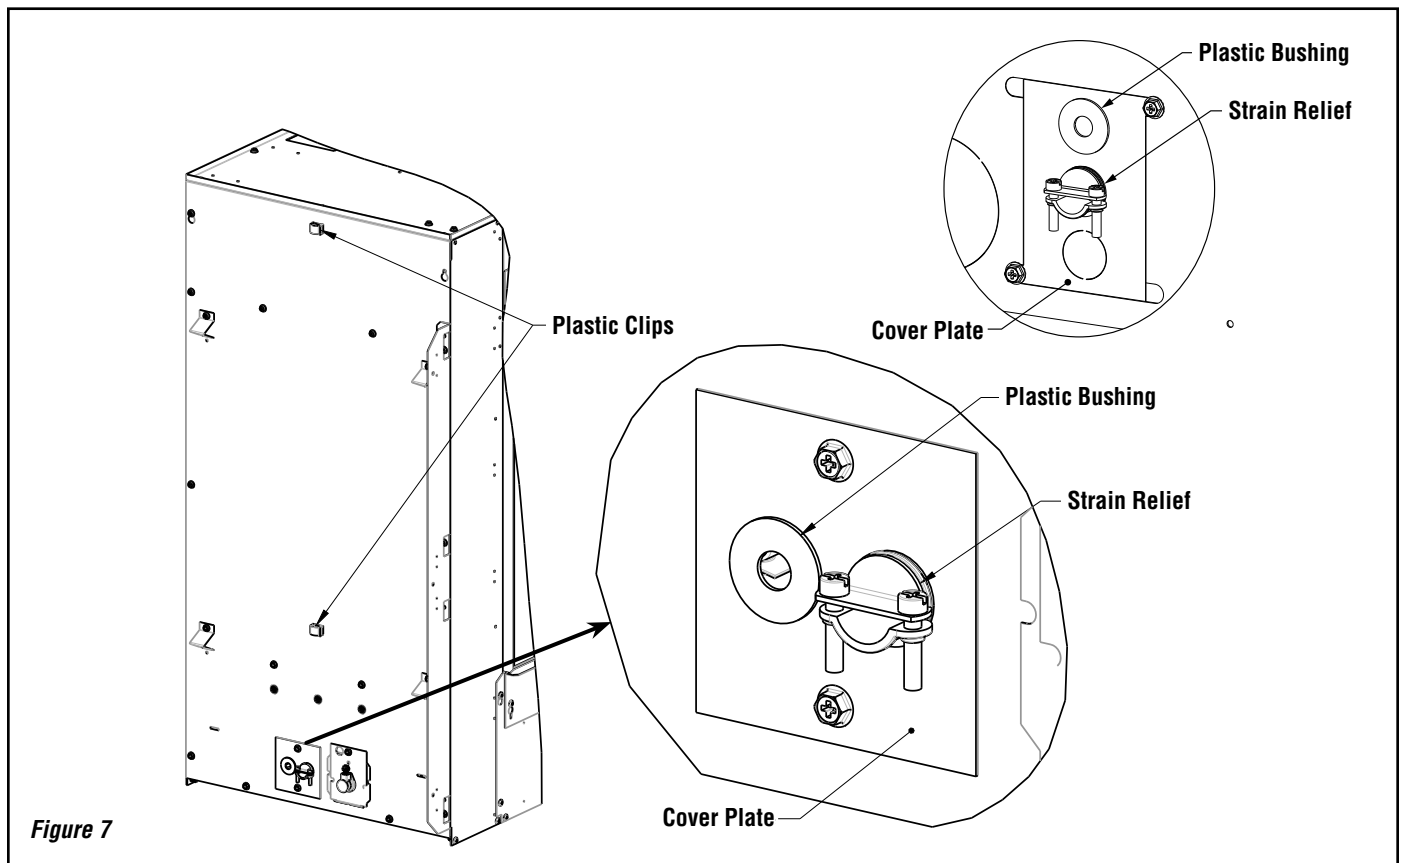

Figure 7
- 5.1. Remove square **cover plate** from the chosen side of fireplace (**Figure 7**).
- 5.4. Push the two **plastic clips** [#14] in to the two holes on the chosen side of the fireplace, they will snap in place (**Figure 7**). These will be used for holding the vacuum hose in place.